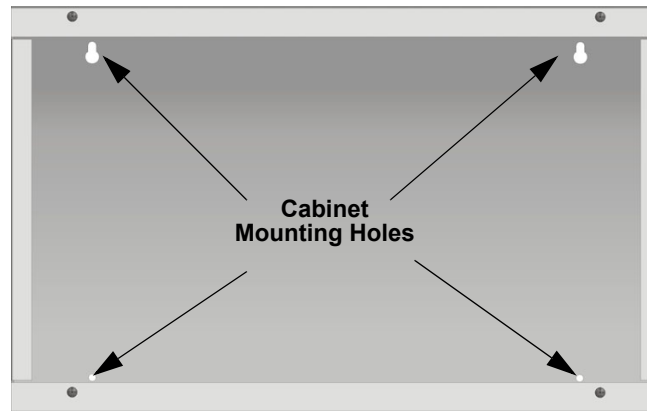

Figure 4-4 RBB or AB-55 Cabinet Mounting Holes
1. Mount the accessory cabinet. See Figure 4-4 for the four cabinet mounting holes.